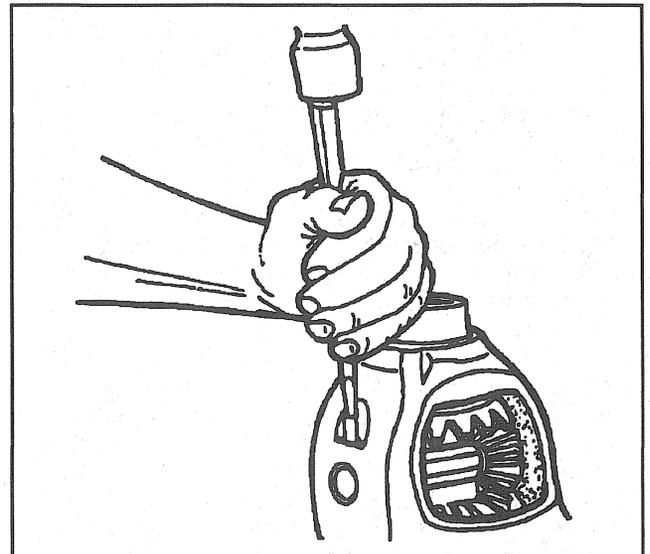

Figure 14—Installing the Roll Pin
6. Pinion shaft (28).
7. Roll pin (29) (Figure 14).
8. Ring gear to the case (2).
9. New ring gear bolts (23).